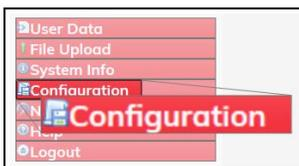

Figure 297: Configuration link
4. On the **Menu** list, click the **Configuration** link. Figure 297